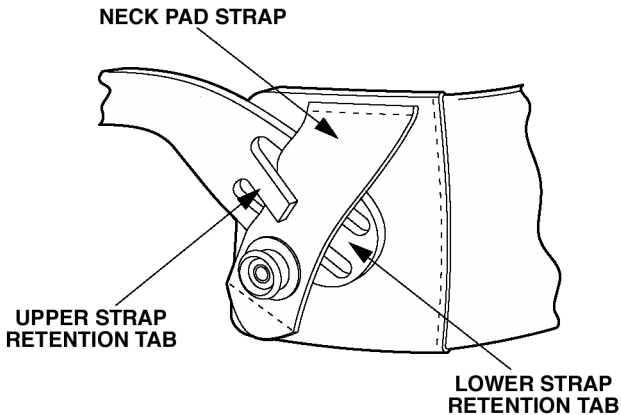

Figure 3-1. Reinstalling the Neck Pad.
(1) Lift the upper headband strap retention tab (see Figure 3-1) allowing the neck pad strap to be inserted underneath.
(2) Slip the neck pad strap all the way under the upper strap retention tab and then pull the lower part of the neck pad strap under the lower strap retention tab.